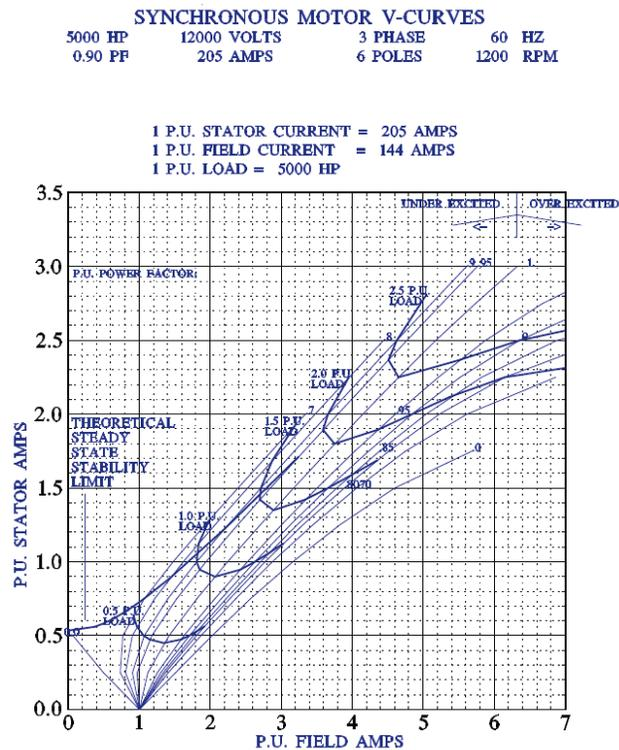

Figure 2 - Synchronous Motor Operation V Curves
An important aspect of the synchronous motor is maintaining operation over the rated load and power factor. Unlike other electrical machines, the synchronous motor has a set of “V curves” that describe motor operation, as show in Figure 2.
- Incomplete Start (48)
For a synchronous motor, the power factor (55) element monitors whether the motor is operating within the manufacturer’s limits set by the V curves. As shown in Figure 2, the load lines represent different excitation points on the V curves designated by power factor. For example, continuous operation at 1.0 p.u. load can have a power factor from ± 0.8 pf. However, these are the absolute limits for this load; operation outside this power factor will cause enough motor heating to eventually trip the motor via the thermal 49TC element if not previously tripped on the 55 element. As specified by the manufacturer, the lagging limit should be 0.90 pf, and close examination of the V curves indicates a leading pf of 0.85 as a reasonable limit. The power factor (55) element should be set to these levels, leaving an appropriate delay for events such as reaching pull-out torque, cyclic loading (load shedding and increasing) and reluctance torque synchronizing.